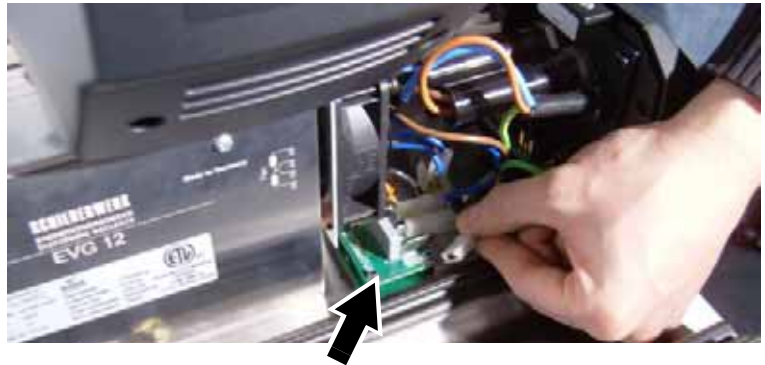

Figure 9
10. See Figure 9. Cut cable ties if necessary and disconnect the mains power leads from PL1, PL2 and PL3 on the mains filter PCB (arrowed) that is part of the ballast assembly.